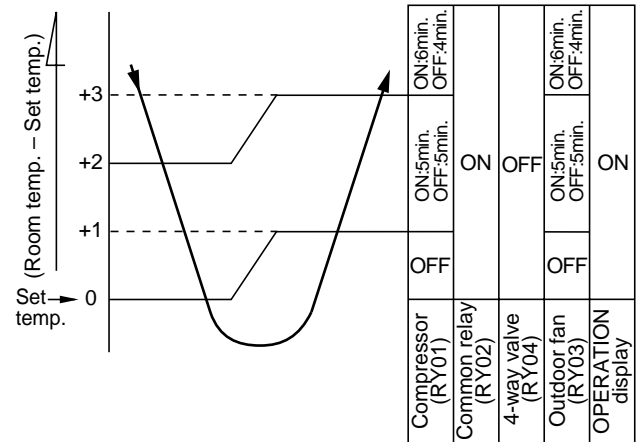

Fig. 7-3-1
(1) Compressor 4-way valve, outdoor fan and operation display are controlled as shown in Fig. 7-3-1.